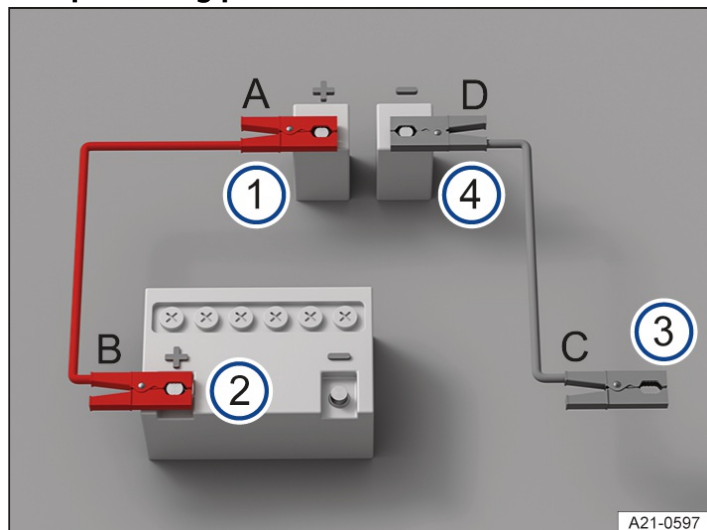

Fig. 1 Schematic diagram of how to connect the jump leads.
Connect the jump leads only in the order A – B – C – D → Fig. 1.
3. Connect one end of the red jump lead to the positive jump-start connection point(+) of the vehicle with the discharged 12-volt vehicle battery → Fig. 1 ① → ⚠.
4. Connect the other end of the red jump lead to the positive battery terminal(+) of the vehicle providing assistance → Fig. 1 ②.
5. Connect one end of the black jump lead preferably to an earth jump-start connection point(–) on the vehicle with the 12-volt vehicle battery providing assistance → Fig. 1 ③.
Or: if no earth jump-start connection point(–) is present, connect the end of the black jump lead to a solid metal part that is securely bolted onto the cylinder block or to the cylinder block itself on the vehicle with the 12-volt vehicle battery providing assistance → Fig. 1 ③.
6. Connect the other end of the black jump lead to the earth jump-start connection point(–) on the vehicle with the discharged 12-volt vehicle battery → Fig. 1 ④ → ⚠.